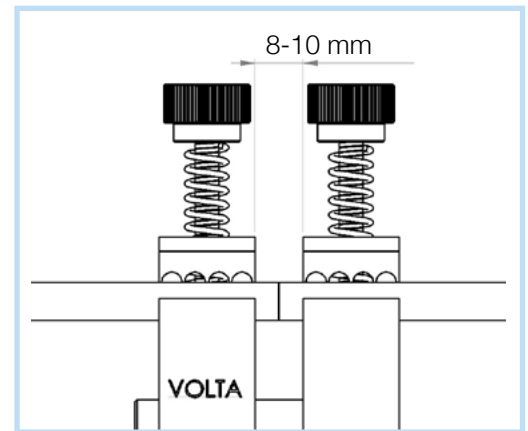

Fig. 5
3. Push to open the clamp (6) and place the belt edges so that the ends are touching approximately at the centre of the pliers gap (Fig. 5).